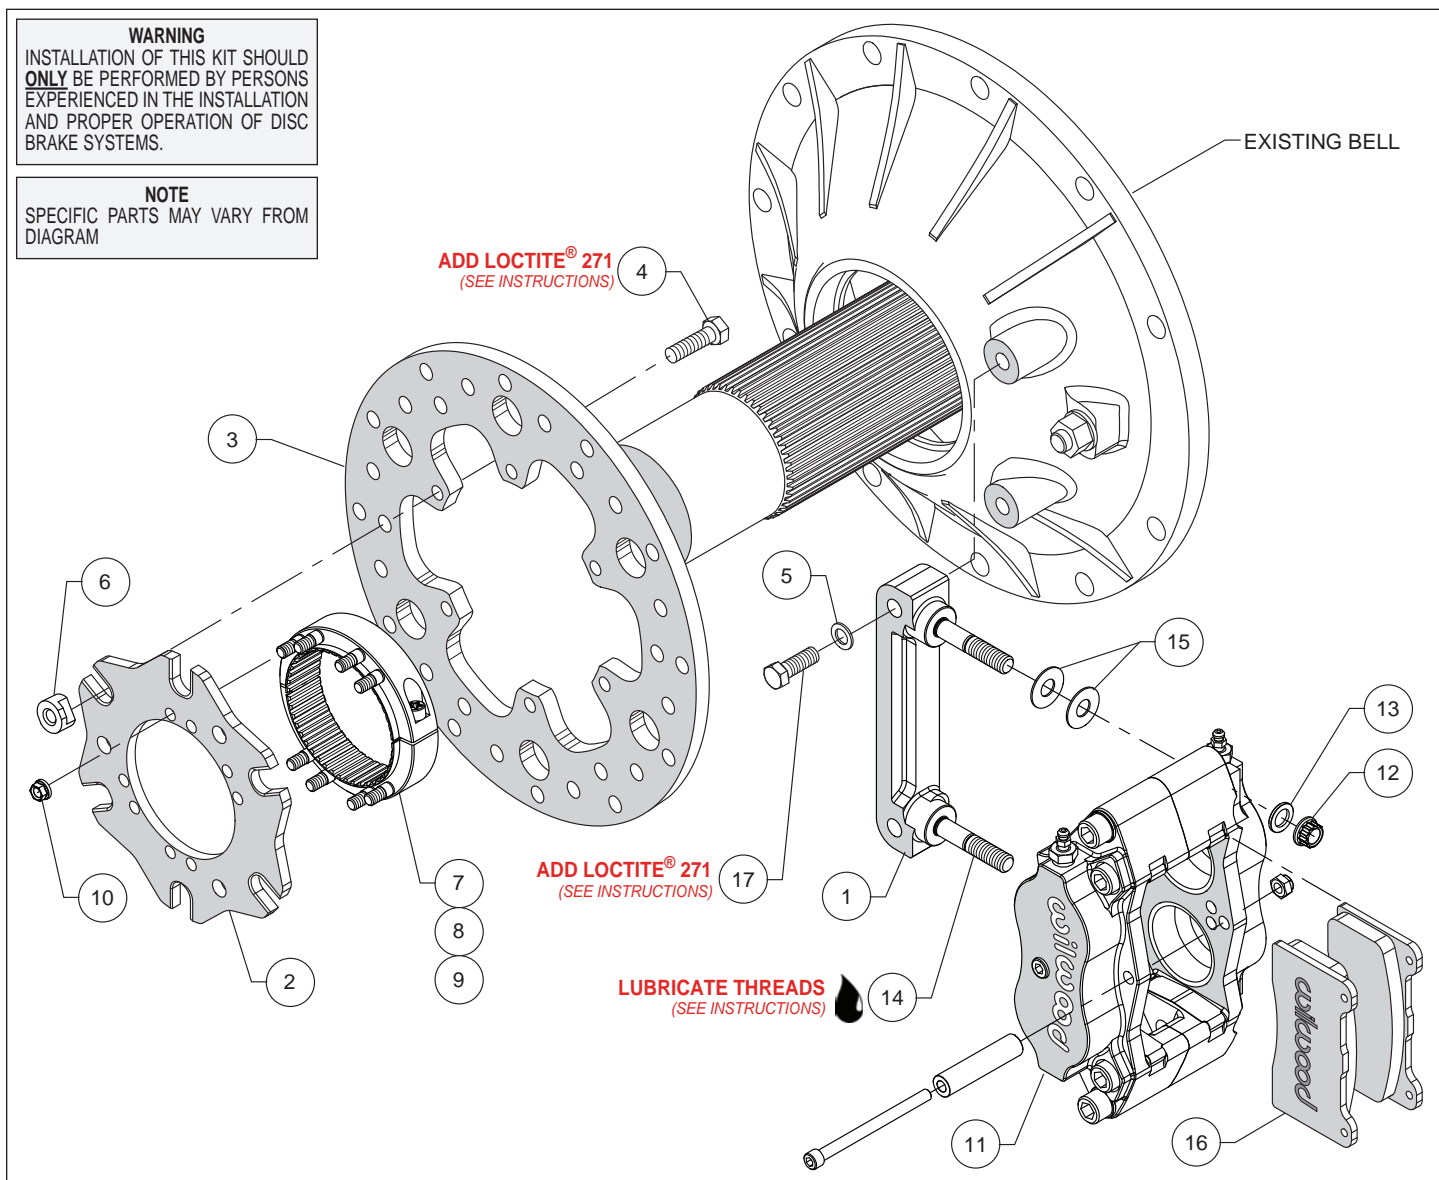

Figure 1. Typical Installation Configuration
- Orient the bracket (1) as shown in Figure 1, and install using bolts (17), and washers (5). Temporarily tighten the mounting bolts. **NOTE:** The bracket must fit squarely against the mount bosses on the bell. Inspect for interference from casting irregularities, machining ridges, burrs, etc. Remove the bracket mounting bolts one at a time, apply red *Loctite*® 271 to the threads, and torque to 35 ft-lb.
- Orient the rotor adapter (2) and the rotor (3), as shown in Figure 1, and attach using bolts (4), and t-nuts (6), Figure 1. Apply red *Loctite*® 271 to the threads before installing. Finger tighten. After all t-nuts have been installed, torque bolts in an alternating sequence to 220 **in-lbs**. Please refer to Wilwood's data sheet DS-669 (available at www.wilwood.com/Pdf/DataSheets/ds669.pdf) for complete t-nut bolt kit installation instructions.
- Orient the axle clamp assembly (7, 8 and 9, pre-assembled) as shown in Figure 1 and install onto the rotor adapter (2) using nuts (10). Tighten nuts part way while still allowing clamp-to-rotor movement. The nuts will be torqued later, after aligning the rotor. **NOTE:** *The axle clamp should be positioned inside of the rotor as shown in Figure 1, not offset, or outside of the rotor adapter.*
- Lubricate the caliper mounting studs (14) with lightweight oil. Initially place two .030" thick shims (15) on each stud as shown in Figure 1. Mount the caliper (11) onto the bracket (1) using lock nuts (12) and washers (13), Figure 1. Temporarily tighten the lock nuts and view the rotor through the top opening of the caliper. The rotor should be centered in the caliper. If not, slide the rotor/adapter assembly on the axle until the rotor is centered in the caliper. Tighten the clamp bolts (9) first, locking the clamp to the axle. Torque nuts (10) to 140 **in-lbs**.
- Remove the caliper center bridge pad retainer bolt, nut, and tube from the caliper. Insert the brake pads (16) into the caliper, with the friction material facing the rotor. Check that the top of the brake pad is flush with the outside diameter of the rotor. If not, adjust by adding or subtracting shims (15) between the caliper and the bracket. After the caliper pad height is set, torque the caliper lock nuts (12) to 30 ft-lb. Secure the brake pads in place with the center bridge pad retainer tube, bolt, and locknut. The locknut should be snug without play in the bolt or tube. Be cautious not to over tighten.